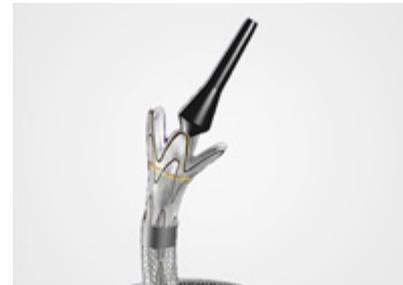

Figure 5
- Deploy 2–5 mm of device, limited repositioning may be possible (see *Figure 5*).